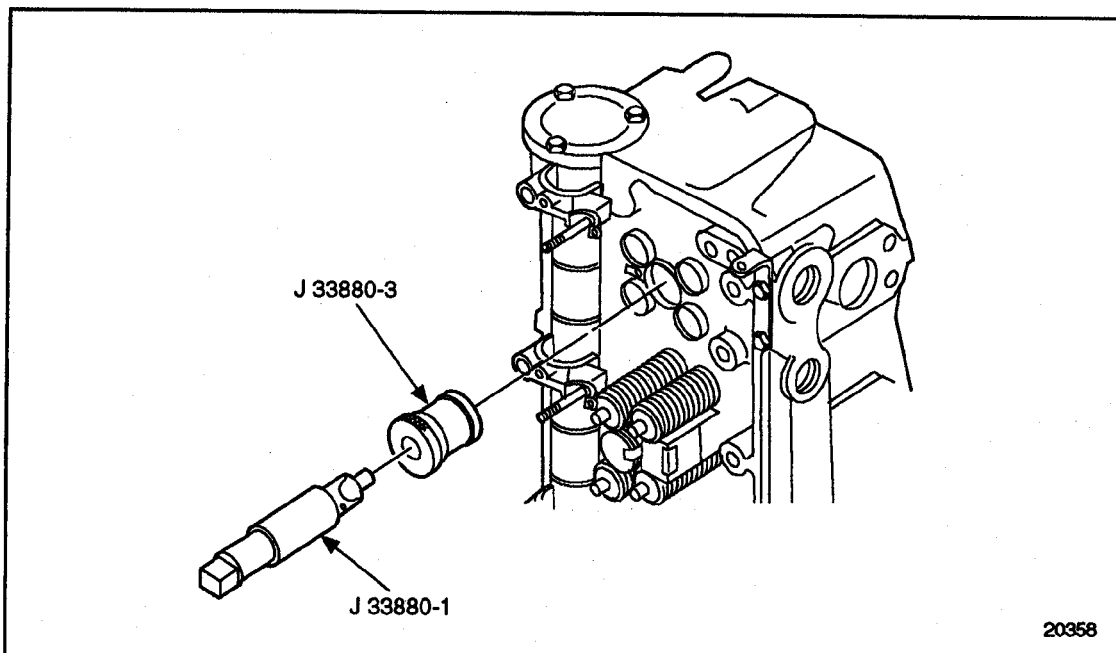

Figure 2-22 Reaming Injector Tube Seat
16. Install J 33880-3, into the injector tube bore until it contacts the cylinder head. See Figure 2-22.
17. Place a few drops of cutting oil on the edges of J 33880-1, and gently place it in the pilot. See Figure 2-22.